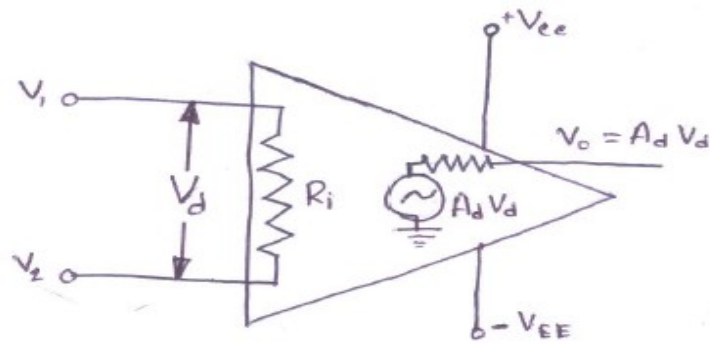

Fig.5.9 Electrical equivalent circuit of an OPAMP
**Electrical equivalent circuit of Op-Amp:** The electrical equivalent circuit of op-amp shown in fig. 5.9